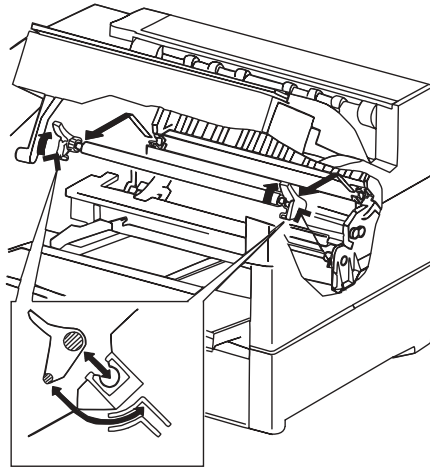

Fig. 6.2 Transfer Roller
3. Remove the roller assembly by turning up the roller's plastic levers, one on each end (fig. 6.2); then, holding the levers, lift the transfer roller up and out at a 45° angle.